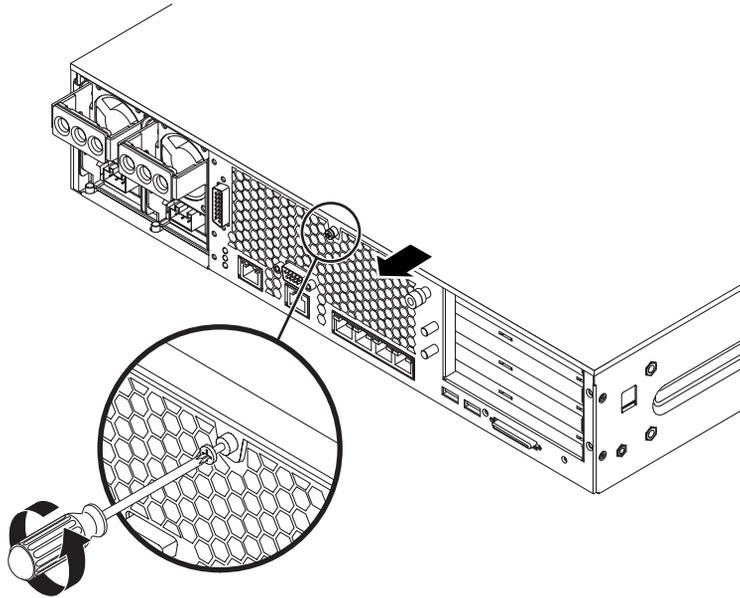

FIGURE 2-5 Removing the Server Cover
2. **Using a No. 2 Phillips screwdriver, loosen the captive screw in the back of the cover (FIGURE 2-5).**
- 3. Grasp the cover at the sides and slide it toward the back of the server, then lift it up and away from the server (FIGURE 2-5).**
- 2. Tighten the captive screw in the back of the cover** (FIGURE 2-5).